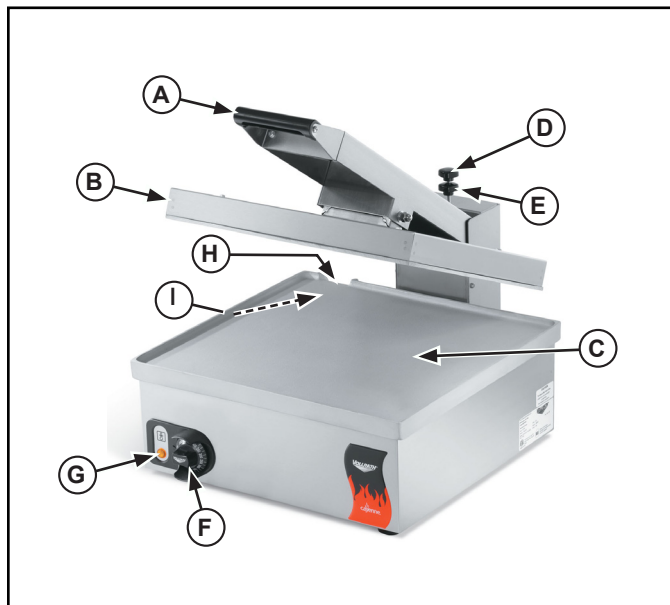

Figure 1. Features and Controls
- 1. Center the food product on the bottom grill plate (C) and lower the top grill plate (B). See Figure 1.
- 2. Adjust the height adjustment (D) until the desired level is reached. Turn the lock nut (E) to set the position of the height adjustment (D).
- 4. Wipe grease or oil to the drip trough (H) and into the drip cup (I). See Figure 1.
- 7. Empty and clean the drip cup (I).